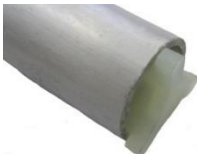

Figure 2
**Install the insulation plug(from the installation kit) (figure 2).**